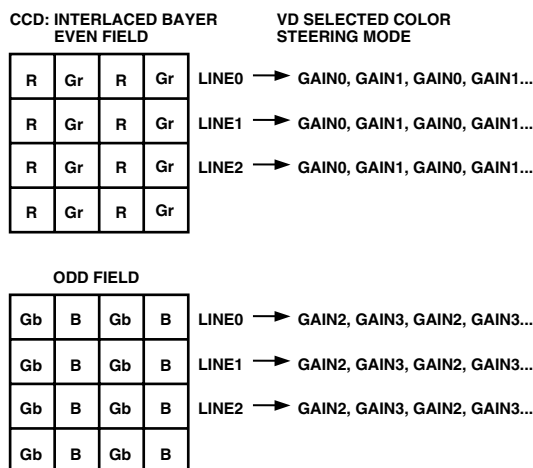
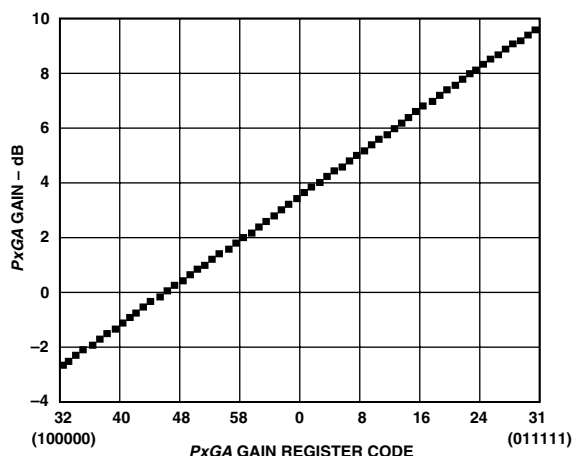

Figure 27. CCD Color Filter Example: Interlaced
Figure 28. PxGA Gain Curve
The same Bayer pattern can also be interlaced, and the VD selected mode should be used with this type of CCD (see Figure 27). The color steering performs the proper multiplexing of the R, G, and B gain values (loaded into the PxGA gain registers) and is synchronized by the user with vertical (VD) and horizontal (HD) sync pulses. For more detailed information, see the PxGA Timing section. The PxGA gain for each of the four channels is variable from -2.5 dB to +9.5 dB, controlled in 64 steps through the serial interface. The PxGA gain curve is shown in Figure 28.